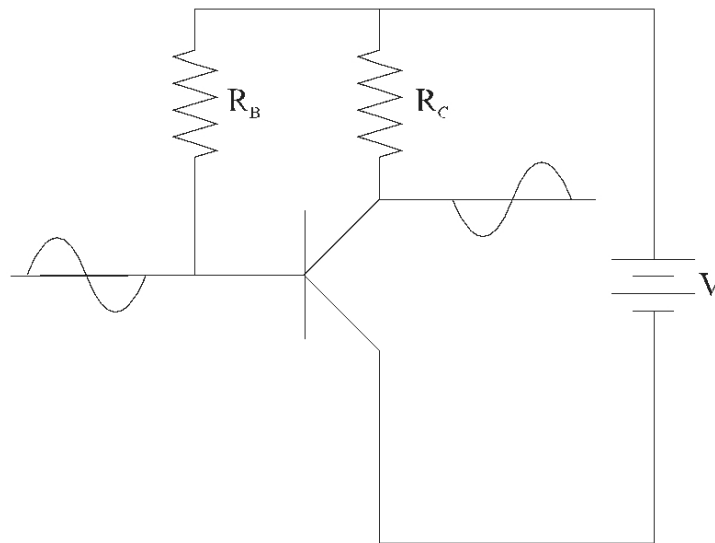

Figure 7-4-1. Circuits to determine transistor operating point.
1. Calculate the ohmic value and power of the resistors in the circuit shown in figure 7.4.1.